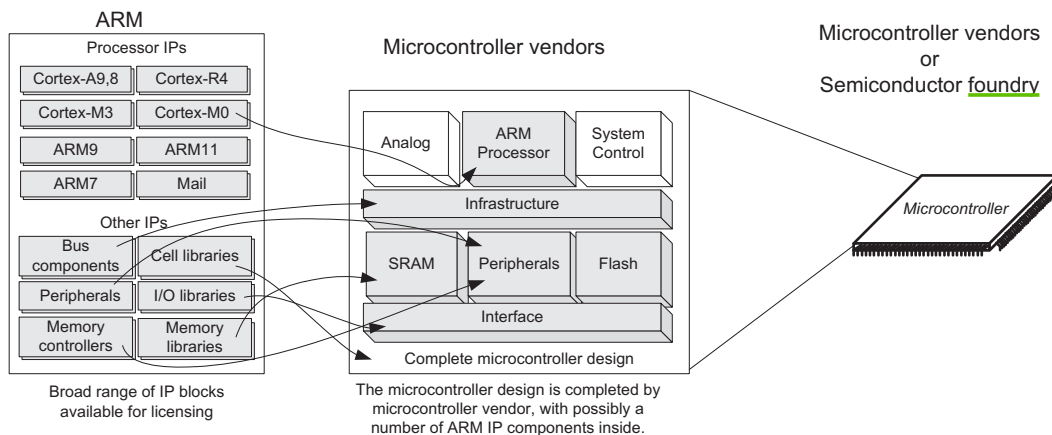

Figure 1.1:
Unlike most microcontroller vendors, ARM does not manufacture microcontroller products. The ARM business is based on intellectual property (IP) licensing (Figure 1.1). With this business model, ARM provides the design of processors to microcontroller designers, and these companies integrate the processor design with the rest of the chip design. Apart from the processors, ARM also designs system infrastructure blocks, peripherals, and silicon process libraries, which microcontroller vendors may choose to integrate into their chips.